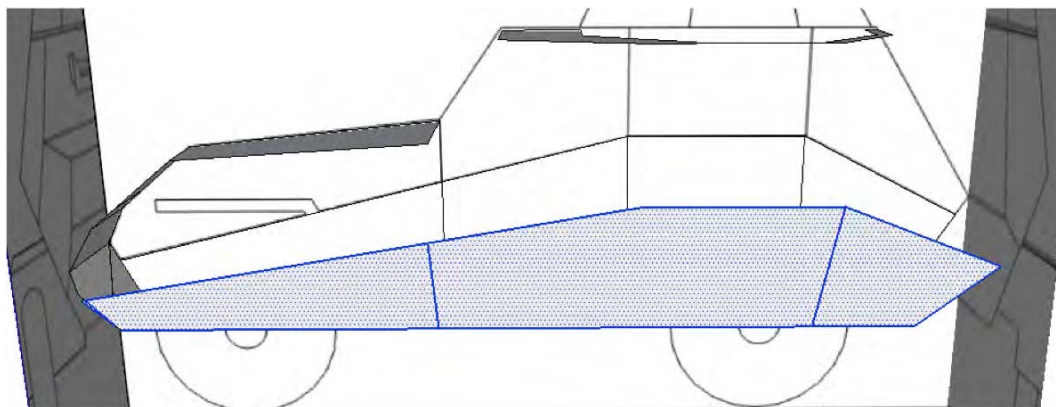

Figure 8–18. Rotating the side surface
- Using the Rotate tool, rotate the side surface of the model. To move and rotate the surface, remember to select the entire surface and not just an edge, as shown in Figure 8–18.
- Trace the surface on the back of the armored car using the Line tool (Figure 8–19a). Then select the entire surface, and using the Move tool, align it with the edge of the side surface (Figure 8–19b).
- Using the Rotate tool, rotate the surface so that it is in alignment with the side surface (Figure 8–19c).